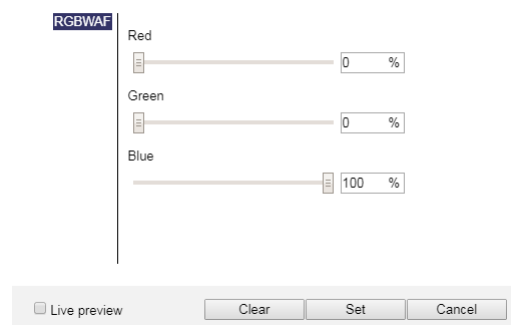

Figure 275: Scene colour selection for devices supporting colour type RGBWAF.
- **RGBWAF:** For this type the resulting colour is composed by selecting a percentage value of 0% to 100% for the intensity of up to six predefined channels (red, green, blue, white, amber and free colour). Figure 275 shows the corresponding user interface. Note, that a specific ballasts supporting RGBWAF might only support a subset of those six channels (e.g. only red, green, blue).